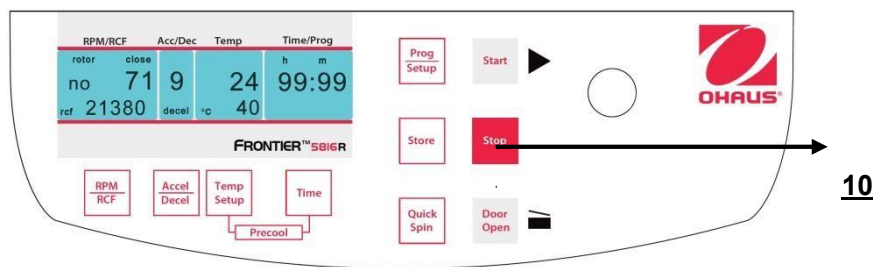

Figure. 30
By the **"Stop"** key (10) (See figure 30) you can interrupt the run at any time. After pressing the key the centrifuge decelerates with the respective pre-selected intensity down to stand still.